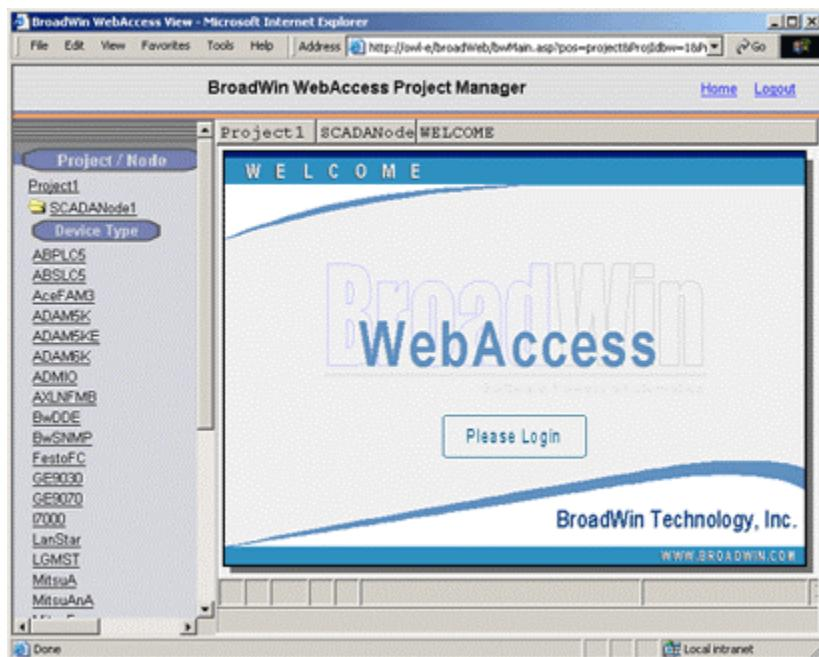

Figure 3-14 - Login page, start VIEW – from Project Manager
10. Welcome to WebAccess Login appears (Figure 3-14) if the Client is installed.